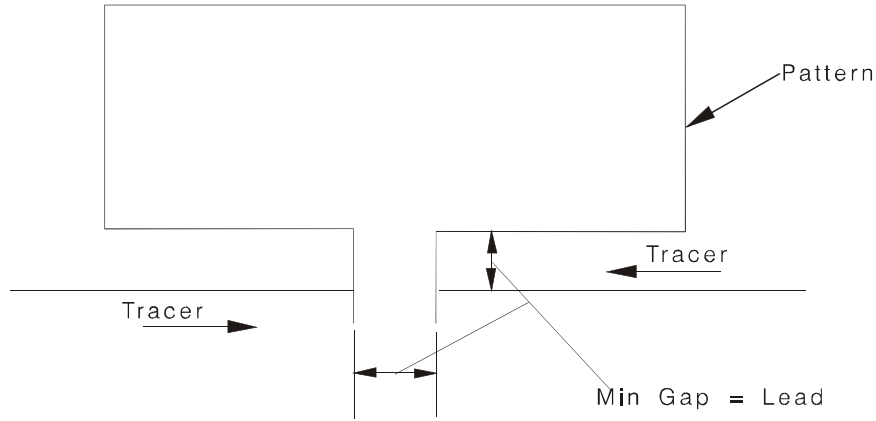

Figure 5-3 Minimum Line Separation
8. The minimum distance between adjacent lines on the pattern should not be less than the lead, i.e. 3 mm (1/8th inch); see Figure 5-3.